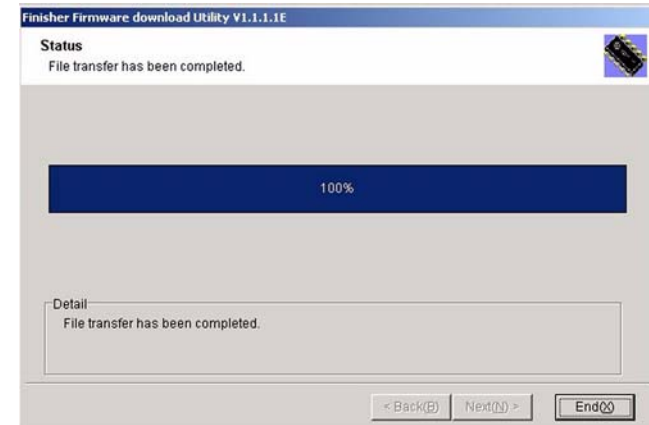

Figure 6 File Transfer
- f. When *File transfer has been completed* appears (Figure 6), click **End**.